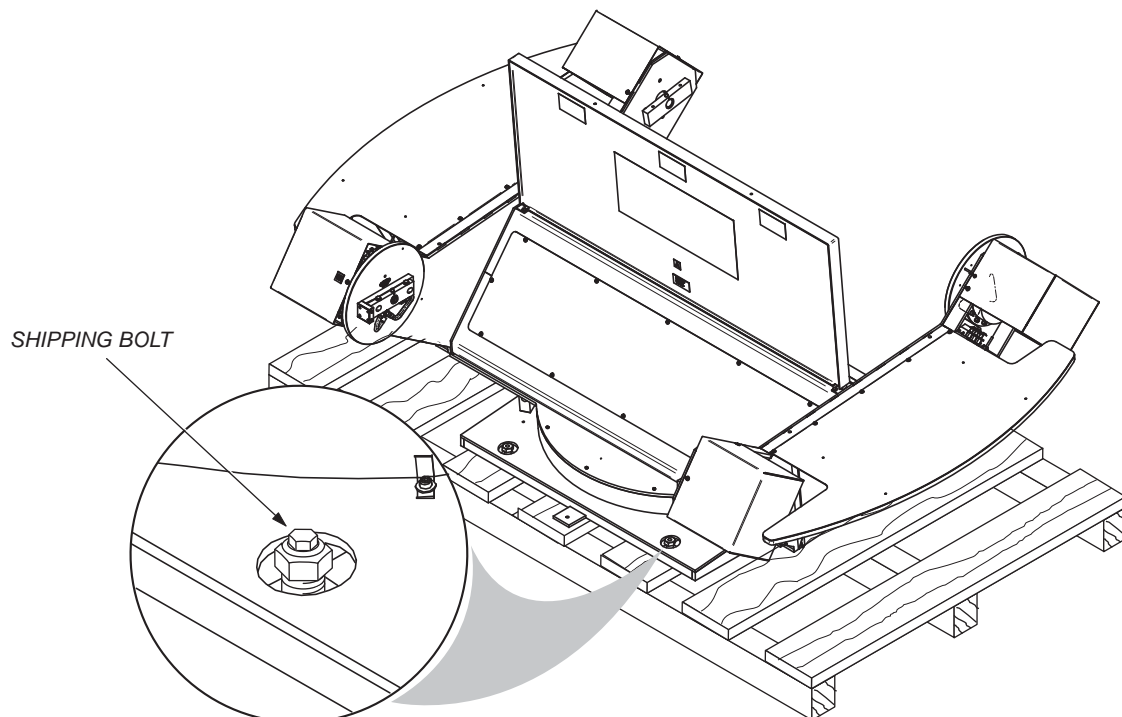

Figure 5 Location of Shipping Bolts
3. Unbolt positioner from shipping skid. Refer to Figure 5 for location of shipping bolts.